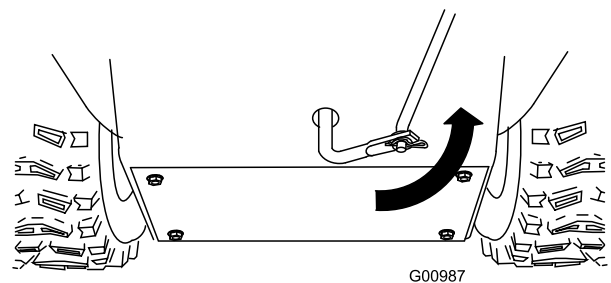

Figure 7
- Rotate the lower link arm fully upward (counterclockwise) (Figure 7).